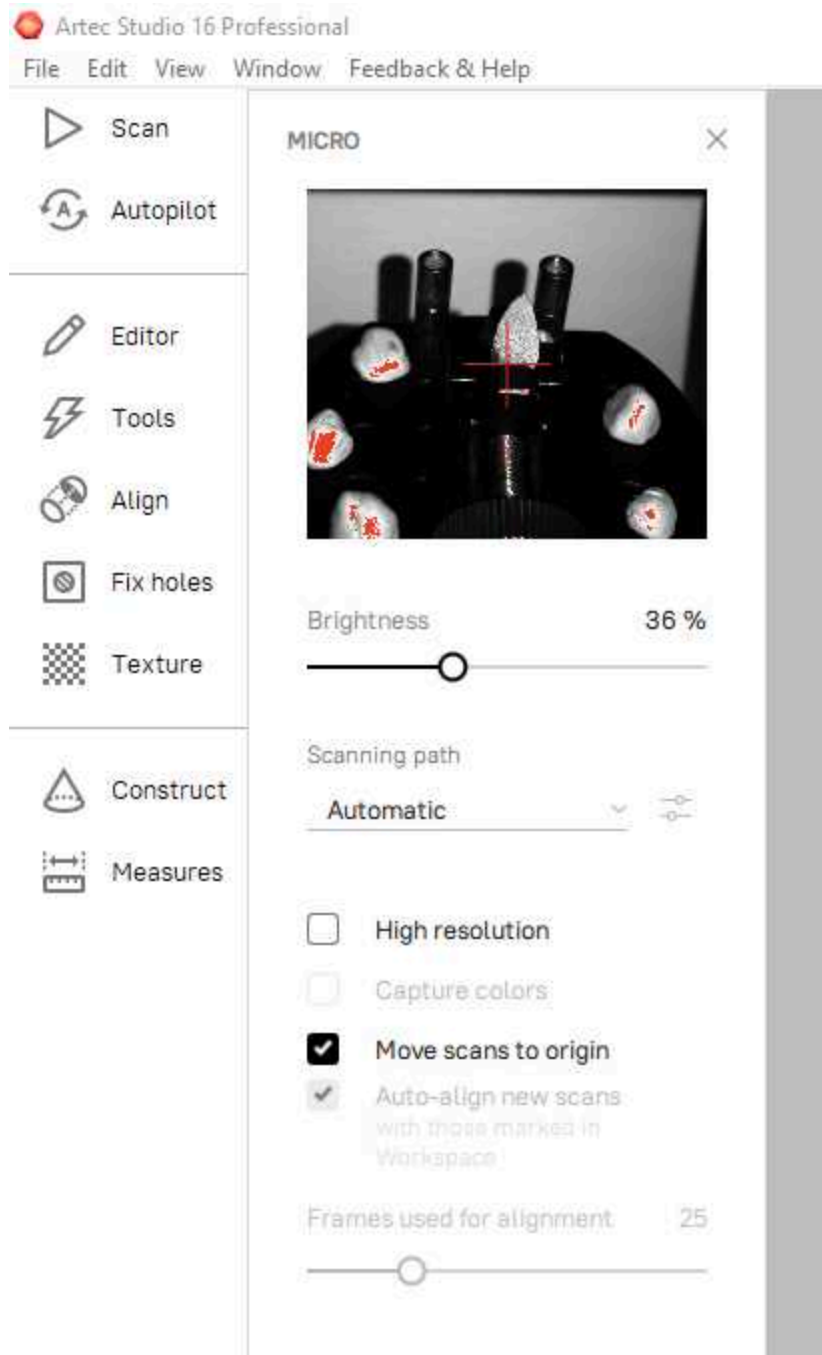

Fig. 6. The camera preview that pops up after clicking *Scan with Artec Micro*.
- 8 The camera view on the top left side (Fig. 6) will show the artifact mounted on the *Vise Jig*. If needed, slide it to roughly center the object to the field of view using the red cross as reference. If the object is not entirely visible, remove one or more spacers until it is completely visible.
- 9 Adjust the brightness to make the object more visible in the preview while avoiding overexposure of the artifact. Overexposed areas are highlighted in red (Fig. 6). The value should be thus adjusted to minimize the red dots on the artifact.
- 10 Select the *Scanning path* (Fig. 6) according to the complexity of the artifact. I recommend using the *Automatic* path, as this setting will automatically calculate the number of frames needed to capture the complexity of the artifact.
- 11 Select *Move scans to origin* (Fig. 6).